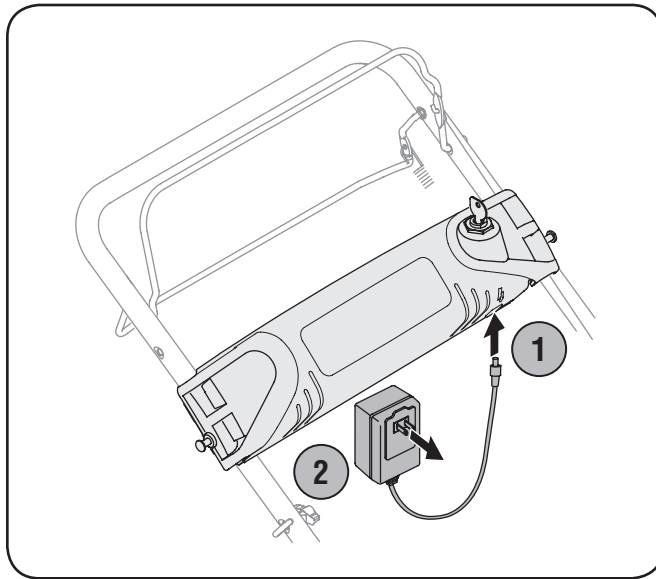

Figure 7-6
1. Plug the battery charger into the port on the underside of the battery housing. See Fig. 7-6.